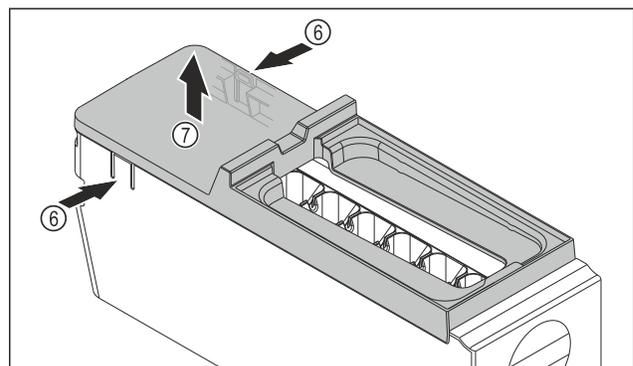

Fig. 155
- ▶ Removing the cover of the EasyTwist-Ice body: With one hand, press the tabs *Fig. 155 (6)* on both sides of the EasyTwist-Ice body.
- ▶ With the other hand, remove the cover *Fig. 155 (7)* upward.